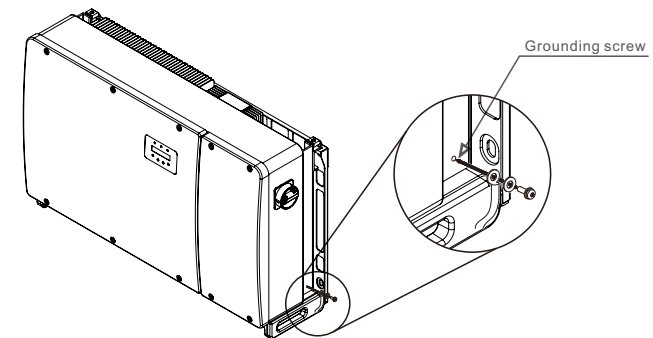

Figure 3.17 Fixed cable
- 6) Connect the grounding cable to the grounding point on the heat sink, and tighten the grounding screw, Torque is 7.4-8.9 ft-lbs(see figure 3.17).